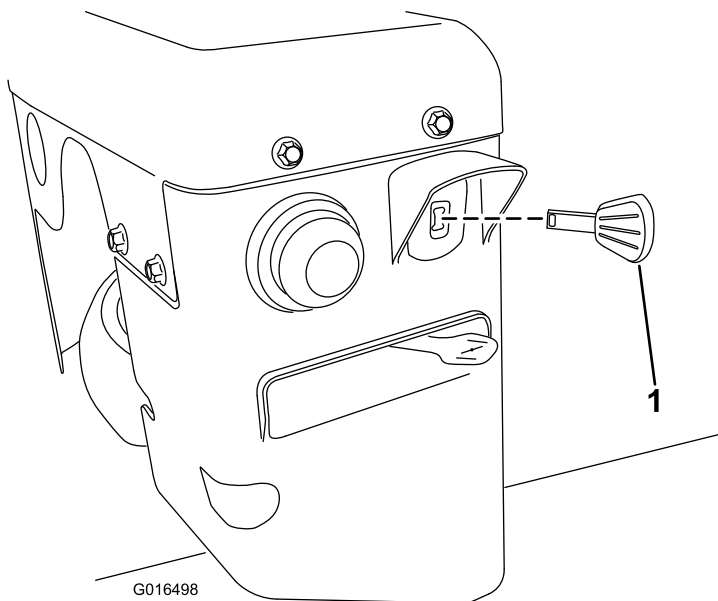

Figure 21
- 3. Insert the ignition key all the way in (Figure 21).